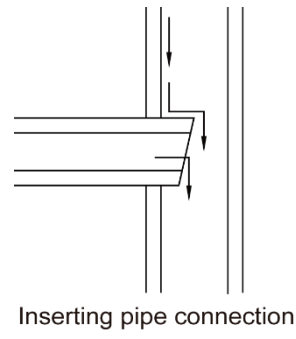

Fig16
- iii Inserting pipe connection (Fig16)